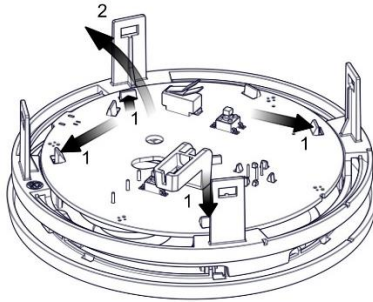

Figure 15
4. Disconnect the PCB from the holding tabs (*see Figure 15*).